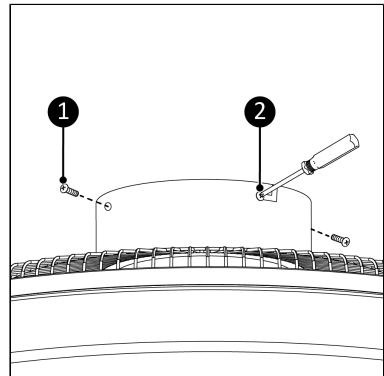

Figure 30.
11. Place and tighten the two screws into the round holes of the fan housing and the mounting bracket (Figure 30, pos. 1).
12. Now tighten the two screws of the L-shaped slot holes (Figure 30, pos. 2).